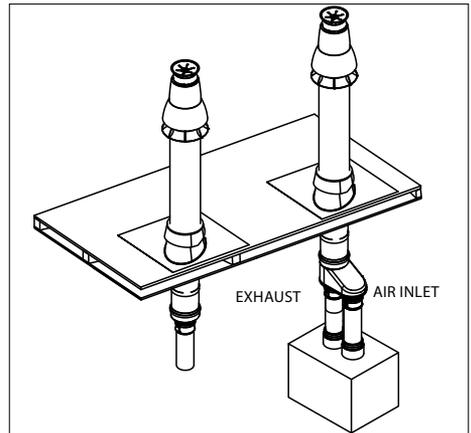

Figure 18
9. Connect Co-Linear Adapter to termination (if applicable). **(Fig.18)**